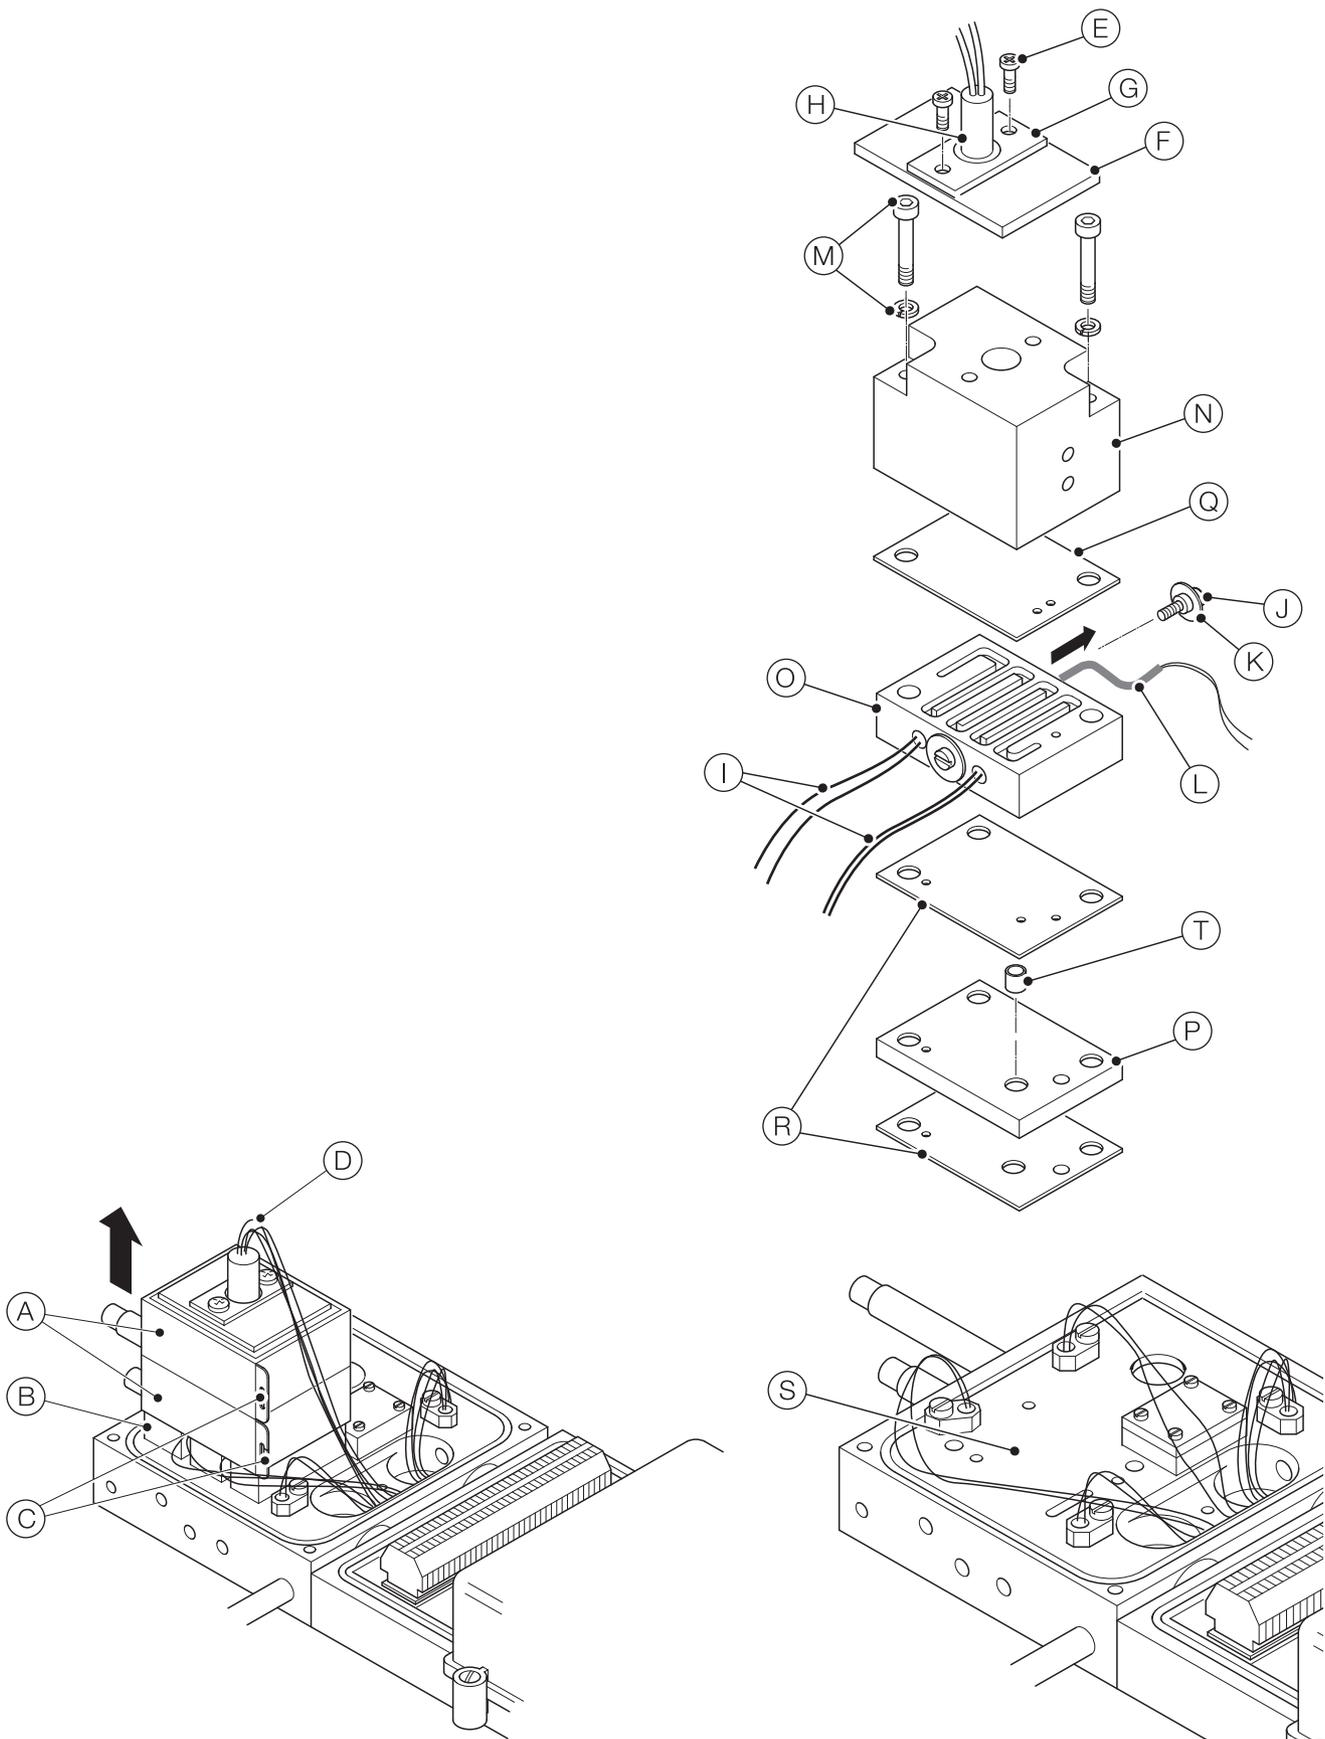

Fig. 8.4 Replacing sensor assembly gaskets
The O₂ sensor must be removed to enable access to the COe block thermocouple – see Fig. 8.4, page 11, item (L).
Referring to Fig. 8.4, page 11: